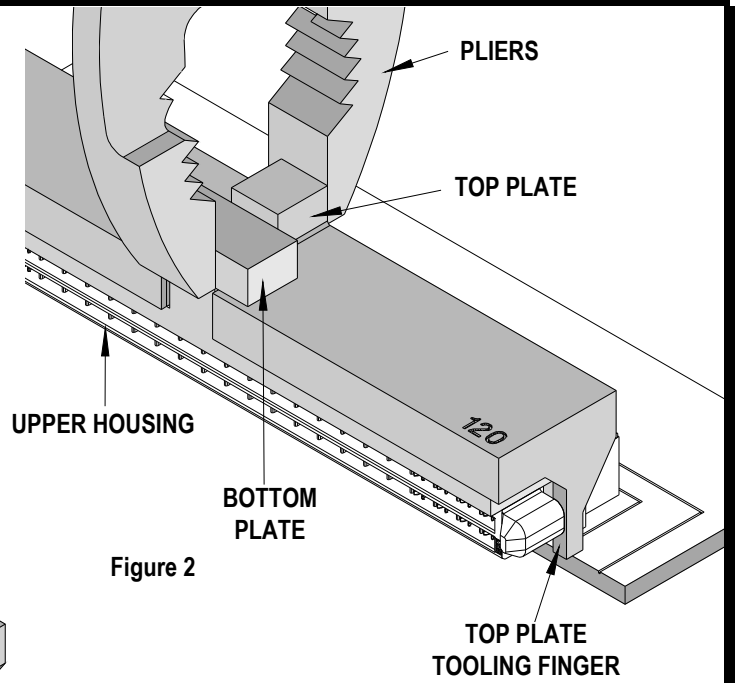

Figure 2
3. Be sure the top plate tooling finger is in the position over the lower tooling finger as far as it will go. See Figure 2.
1. Position a pair of pliers over the top plate and the “T” in the bottom plate. Squeeze the handles of the pliers until the jaws clamp firmly onto both plates. See Figure 2.